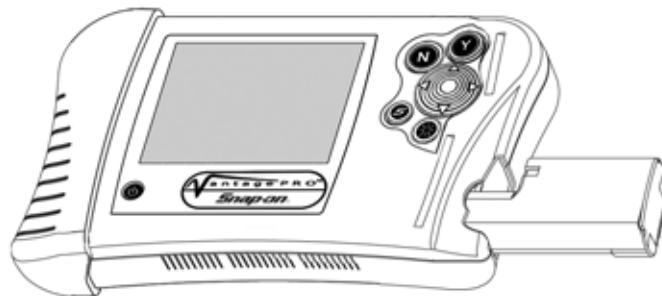

Figure 3-2 *Battery pack slot*
- Remove the right handgrip and insert the battery pack into the vacant battery slot (Figure 3-2).